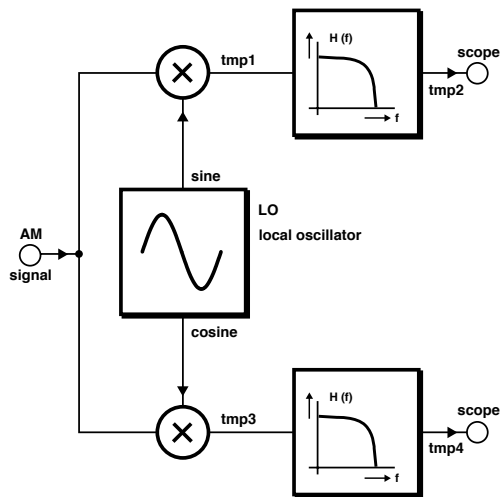

Figure 47. Synchronous or coherent demodulation with the original carrier and with a phase-shifted carrier.
There are other means of demodulating an AM signal. In the discussion about amplitude modulation, it was seen that when a signal is multiplied with the sinusoidal output of a local oscillator (LO), the spectrum is shifted by the frequency of the LO. It is, therefore, possible to restore the original spectrum by a second multiplication. The corresponding experiment, XDEM05.SPP is shown in **Figure 47**, and the result in **Figure 48**. If the LO signal is exactly the same as that used to modulate the original signal, that signal can be regained by multiplication and low-pass filtering (**Figure 3** and **Figure 4 top**).